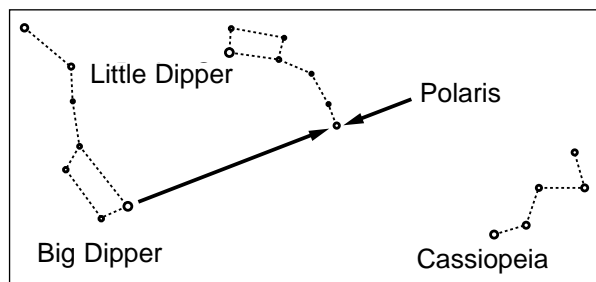

Fig. 3: Locating Polaris.
1. Release the Azimuth lock (30, Fig. 1) of the Azimuth base (33, Fig. 1), so that the entire telescope-with-mounting may be rotated in a horizontal direction. Rotate the telescope until the polar axis (10, Fig. 1) points due North. Locate Polaris, the North Star (see Fig. 3), as an accurate reference for due North.